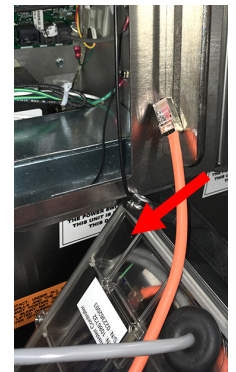

Figure 7
8. Lower the controller and rest it on the bottom of the control box (see Figure 7). The black tether on the right will support the controller.